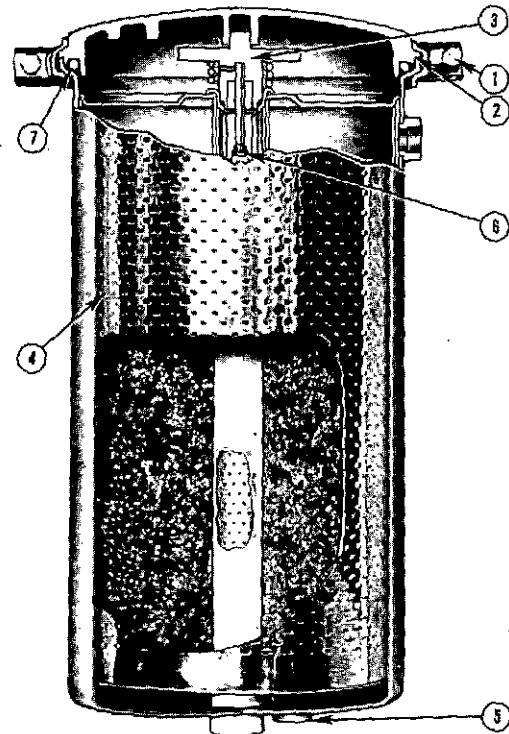

Fig. 2-8 (V41908) By-Pass filter cross section
1. Remove drain plug (5, Fig. 2-8) and drain oil.
2. Remove clamping ring capscrew (1) and lift off cover.
3. Unscrew support hold-down assembly (3); lift out element (4) and hold-down assembly. Discard element.
7. Check orifice plug (6) inside oil outlet connection or standpipe; blow out with air to open and clean.
8. Check filter cover "O" ring (7). Replace if necessary.